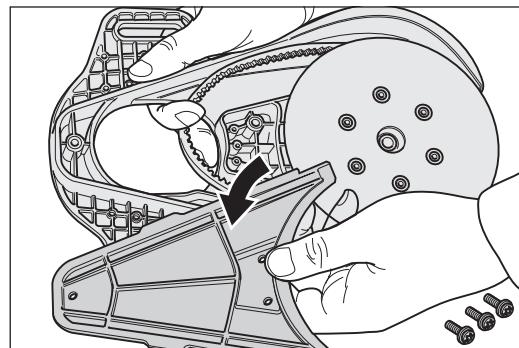

Fig. 41 Remove the attachment cover from the attachment.
- 7 Use the universal spanner to undo the fixing screws of the attachment cover and remove this from the attachment (fig. 41).